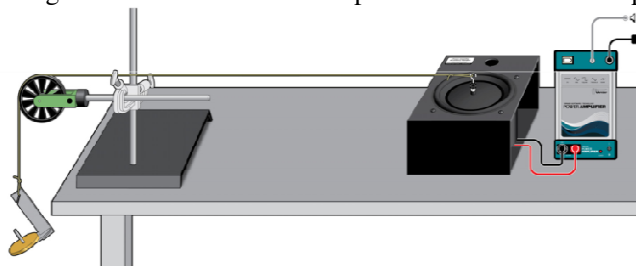

Fig 8.4: Apparatus
- Tie one end to the hook on the speaker and the other end to a very light mass hanger. Suspend the string over a pulley, as shown in Figure 8.4. Use the lightest masses you have available to keep the string from sagging. Measure the length of the string between the hook and the point of contact with the pulley.